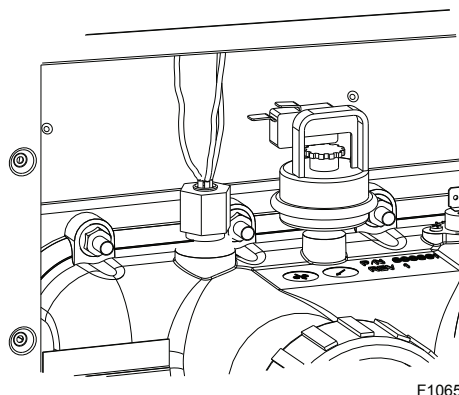

Figure 31. Thermostat Temperature Sensor Location
3. Remove the thermostat temperature sensor by loosening the compression fitting nut. Re-route the sensor to left side of the heater. See **Figure 31**.